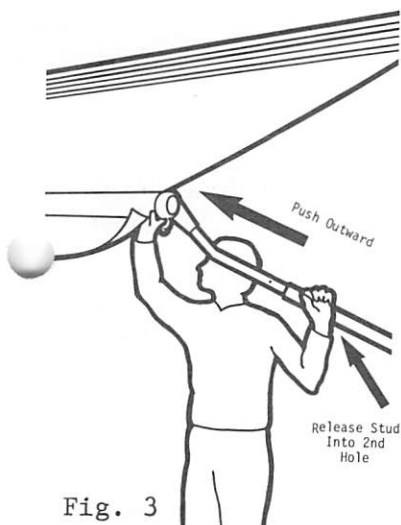

Fig. 3
- Step 3. **APPLICABLE ONLY TO AVION AND GMC VEHICLES (OTHERS GO DIRECTLY TO STEP 4)** Release the snap stud on the main arm (Figure 3) and raise the awning until the second height hole is engaged.